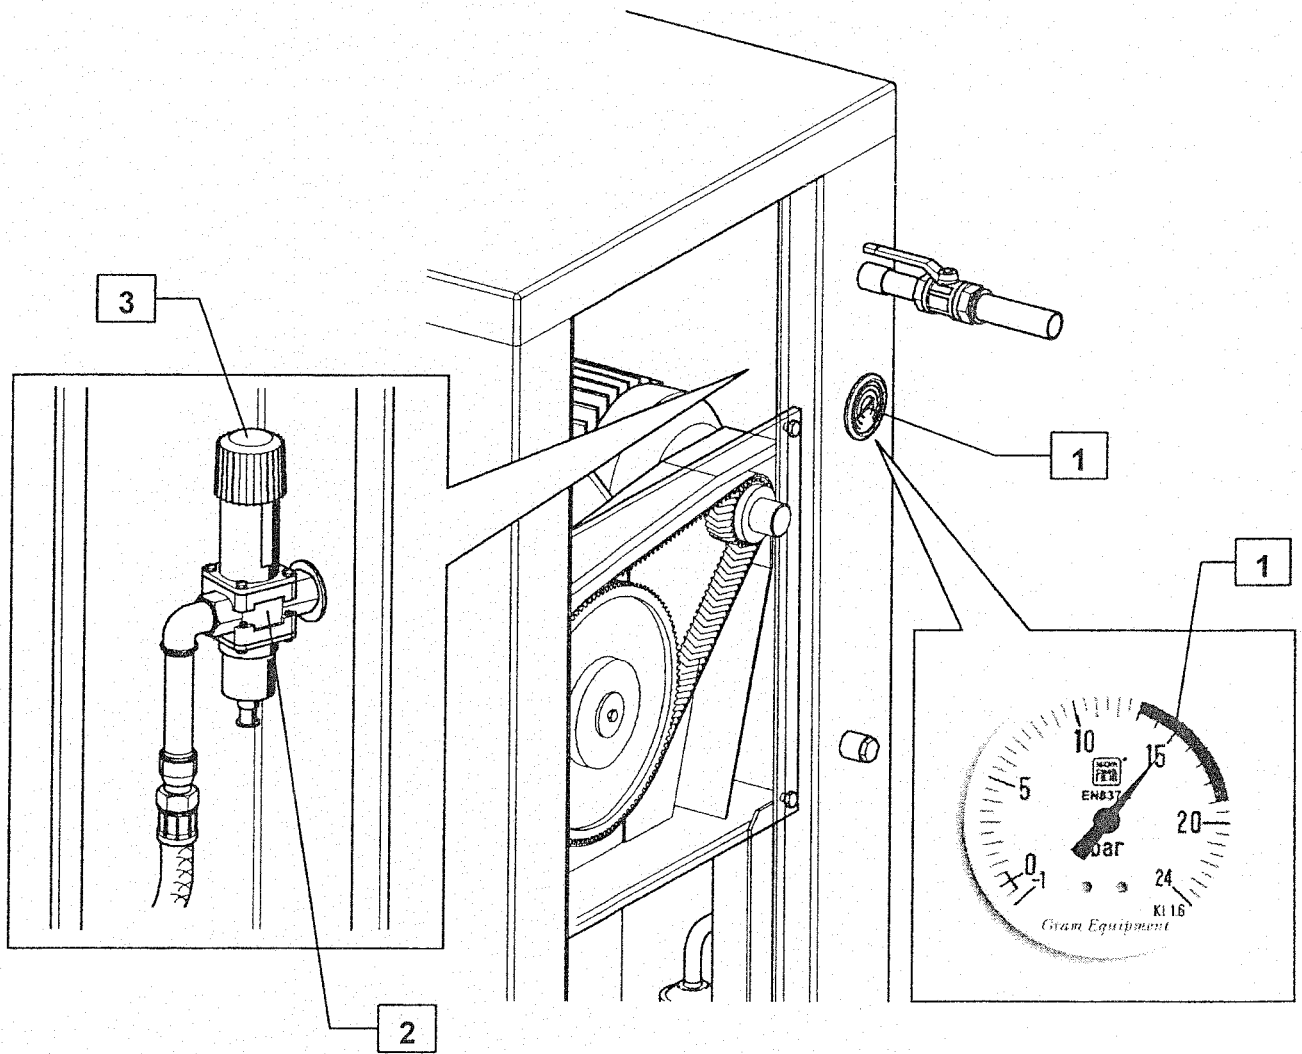

Fig. 8-1 – Trouble shooting
- The calibration value in the factory is 15 bar (Fig. 8-1 pos. 1). Check that the pointer of the condensation manometer is inside the green area of the scale. If it was not like this, check that all the cocks on the line that brings water to the freezer are open and that the water reaches regularly the machine. Check the water temperature (it should be  $> 5, < 31^{\circ}\text{C}$ ) and, if necessary, adjust the pressure adjusting valve (Fig. 8-1 pos. 2) acting with the handwheel (Fig. 8-1 pos. 3) placed on the top of the valve to bring the pressure to 15 bar.